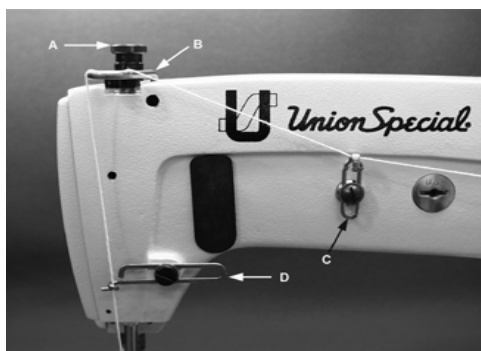

Fig 16
Regulate the presser spring regulating screw (A, Fig. 16) so that it exerts only enough pressure on the presser foot to feed the work uniformly when a slight tension is placed on the fabric. Turning it clockwise increases the pressure, counterclockwise acts the reverse.
Turn handwheel in operating direction until the needle bar reaches its lowest position. Set needle thread take-up wire (B, Fig. 16) to the lowest position. Set needle thread frame eyelet, (C) so that the screw is centered in the eyelet slot. Set the needle thread frame eyelet, lower, (D) so that the screw is just left of the center of the eyelet slot. Raise eyelet (B) for a larger needle thread loop.